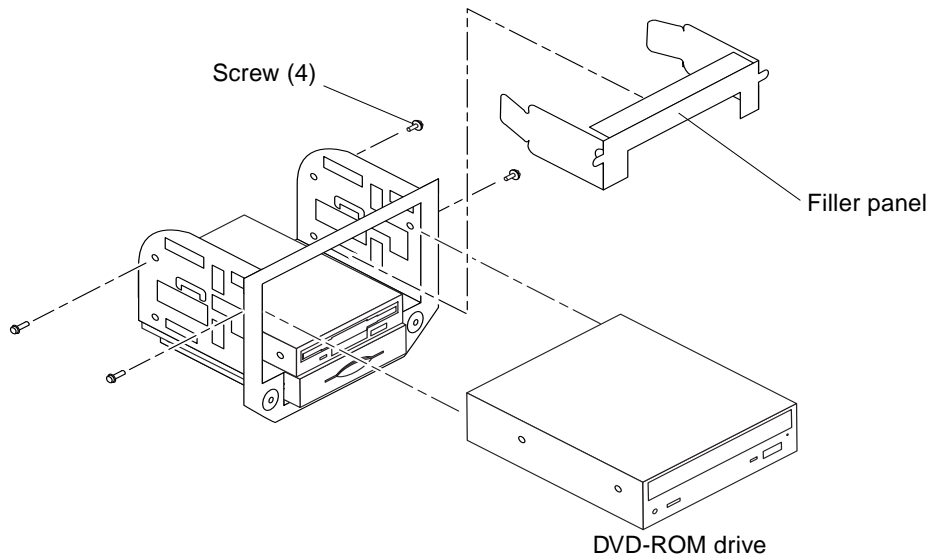

FIGURE 7-3 Removing and Replacing the DVD-ROM Drive
1. Position the peripheral assembly on a flat surface so that the DVD-ROM drive, or tape drive is flat (FIGURE 7-3).
1. **Remove the filler panel if necessary (FIGURE 7-3 on page 7-6).**
1. Remove the filler panel if necessary (FIGURE 7-3 on page 7-6).